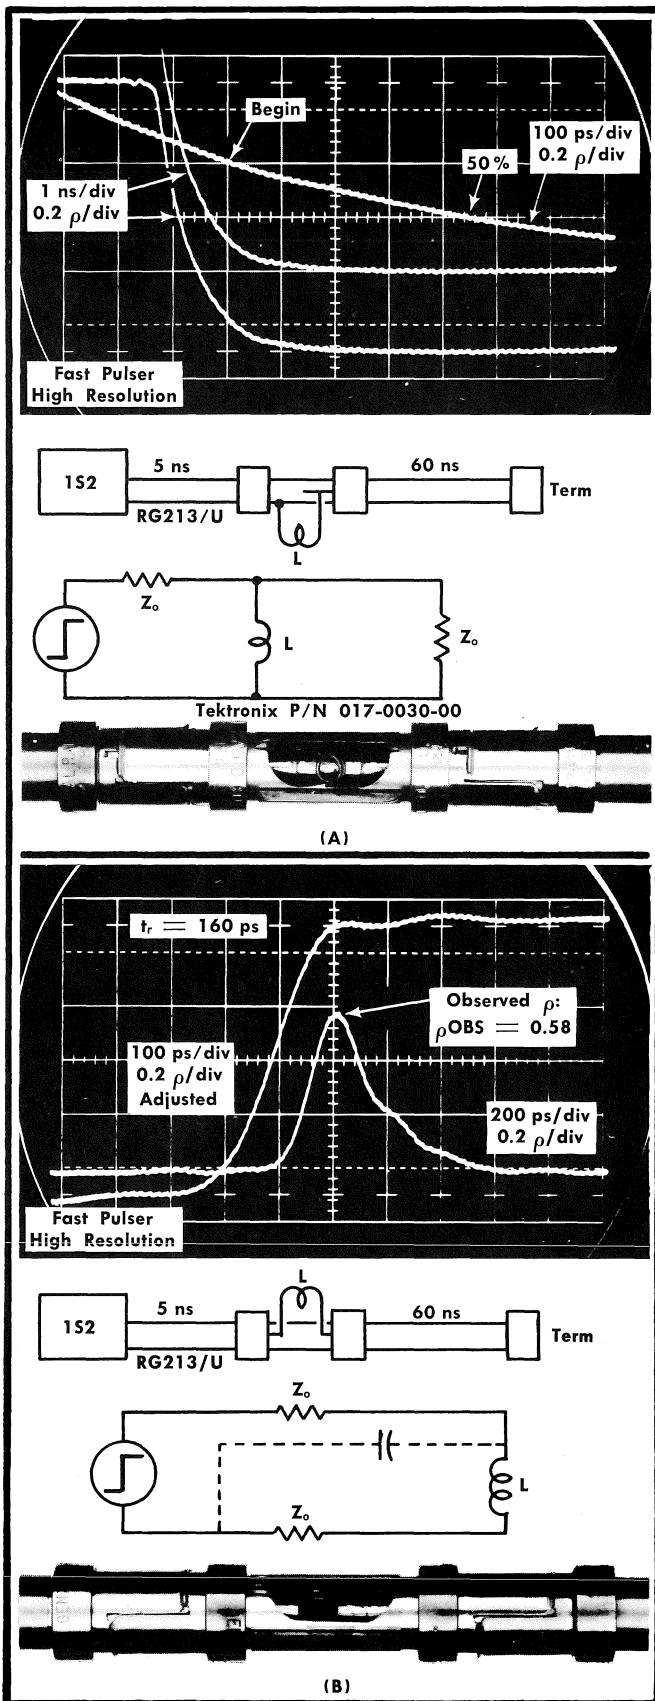

Fig. 2-15. (A) 1 3/4 turn coil in parallel, (B) same coil in series, with 50 Ω coaxial line.
Fig. 2-15 is an example of TDR displays from a small inductor ($1\frac{3}{4}$ turn) placed in parallel with a 50Ω line at (A), and in series with the 50Ω line at (B). Calculations were made on Fig. 2-15A first because the display is a clean exponential that permits L/R time constant analysis. Waveforms #1 and #2 of Fig. 2-15A show first the full exponential decay through five CRT divisions, then at #2 the waveform is positioned vertically so the exponential end is at -1 division. Waveform #3 used the same vertical calibration, but was time expanded to obtain the new 100% to 50% time duration.